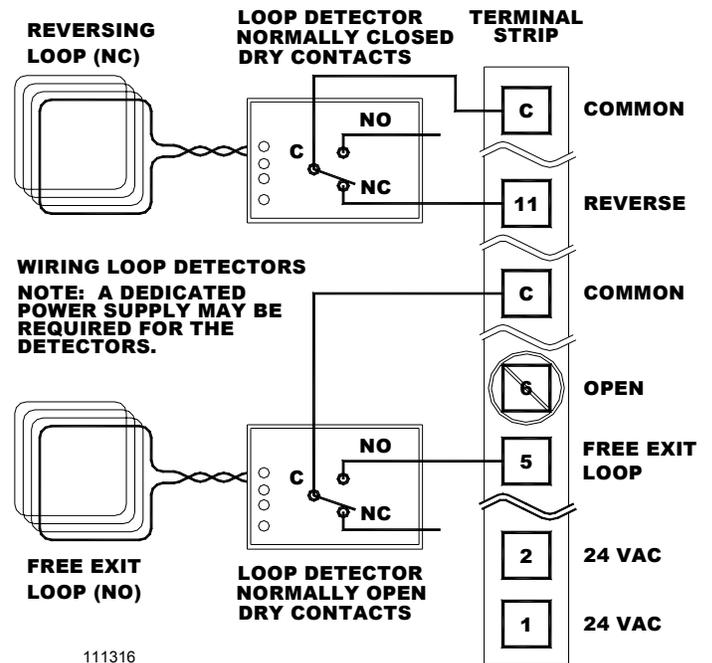

Figure 8: Wiring A Reversing Loop Detector
Place the detector in a remote electrical box. Hook-up the power and loop wires on the detector harness according to the manufacturer's instructions. For a Reversing Loop, The RELAY COMMON wire is connected to one of the COMMON (C) terminals on the control box 22 position terminal strip. The Normally Closed PRESENCE OUTPUT wire is connected to terminal #11, REVERSE. For a Free Exit Loop, The RELAY COMMON wire is connected to one of the COMMON (C) terminals on the control box 22 position terminal strip. The Normally Open PRESENCE OUTPUT wire is connected to terminal #5, Free Exit Loop. See Figure 8 at right above for a typical wiring installation.